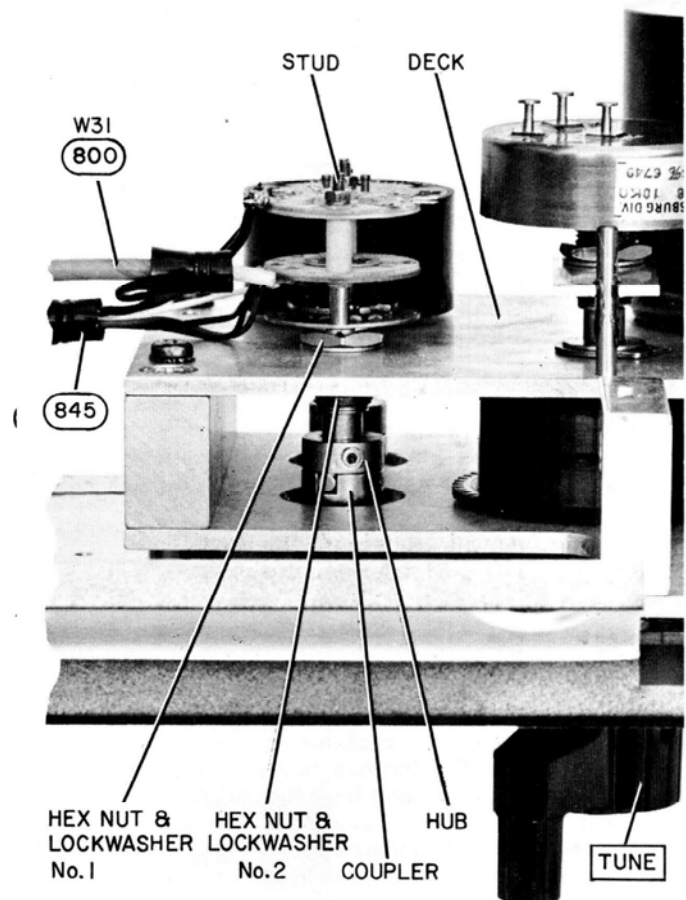

Figure 5-31. Portion of Rear of Front Panel, Frequency Scale Drum Removed to Show Mounting of Gain-Compensating Switch S4
e. Figure 5-31 shows Switch S4 in its mounting. Referring to Figure 5-31:
- (1) Loosen Hex Nut No. 2 with 1/2-inch open-end wrench.
- (2) The hub is secured to the switch shaft with two 6-32 x 1/8 Allenscrews. With Hex Nut No. 2 loosened, Switch S4 can be rotated to expose each Allen screw; loosen the Allen screws.
- (3) When removing Switch S4:
- (4) Transfer Hex Nut No. 1 and Lockwasher No. 1 from the old switch to replacement Switch S4.